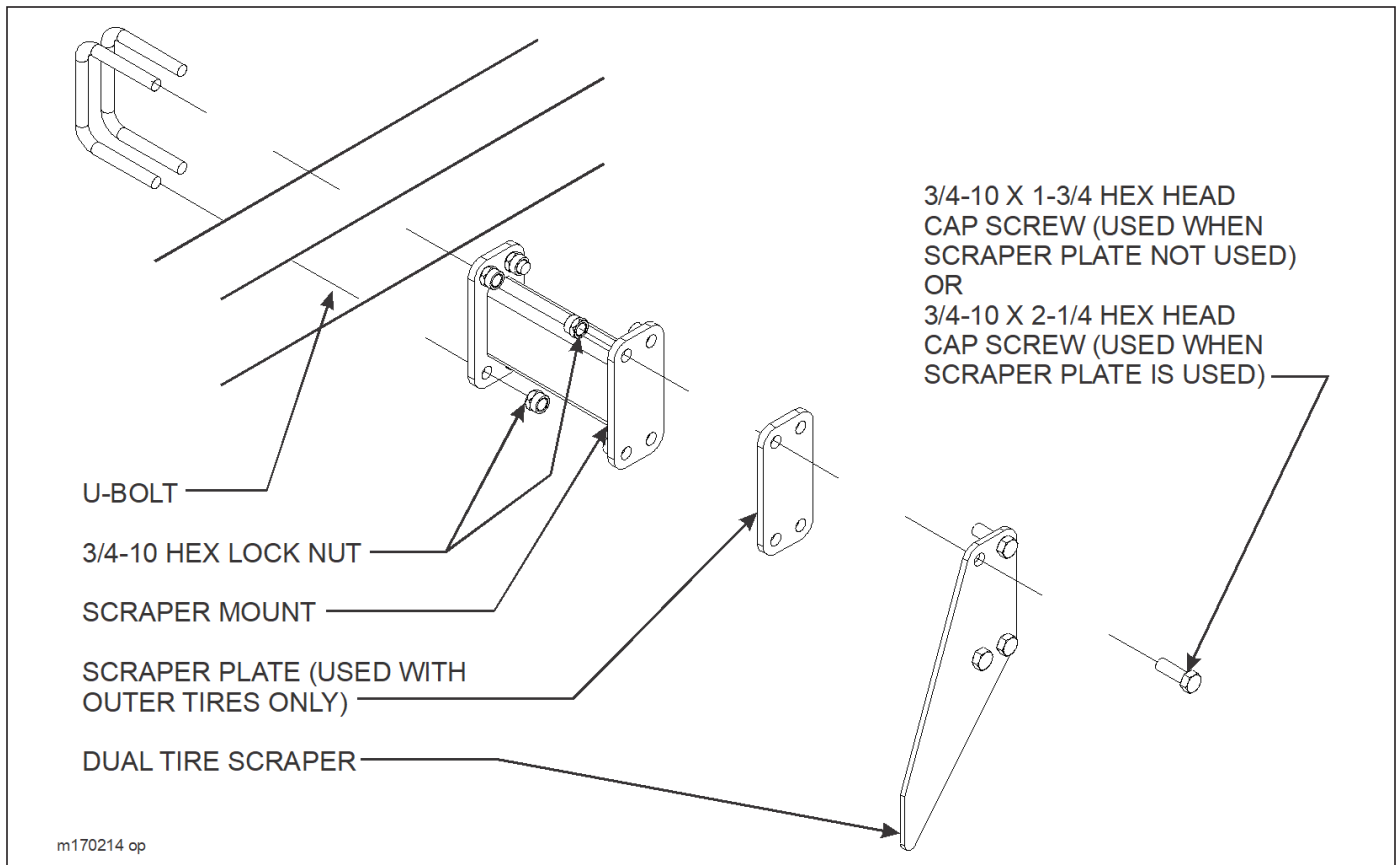

Figure 3-4: Dual Tire Scraper Installation
1. Attach scraper mount to center frame using u-bolts and 3/4-10 hex lock nuts (See Figure 3-4.)